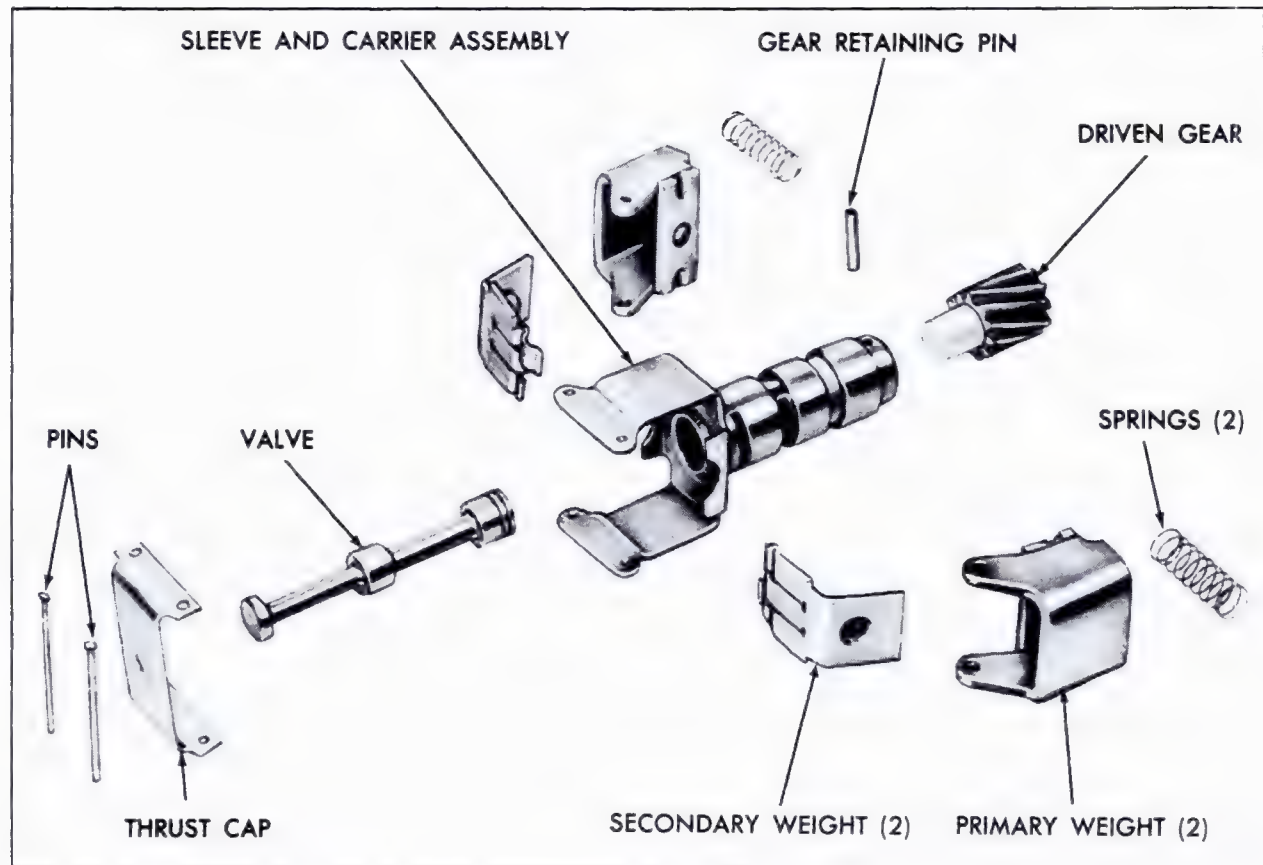

Fig. 7-60 Governor Assembly Disassembled
f. Governor Assembly (Fig. 7-60)